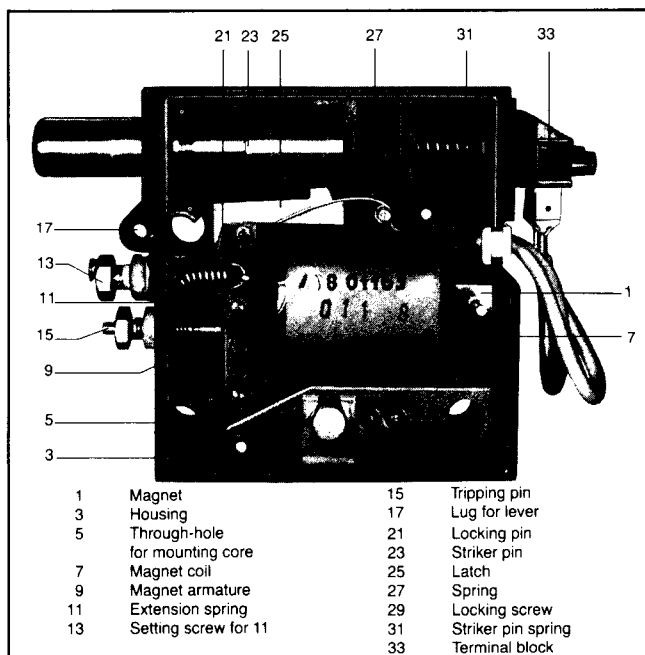

Figure 16. Construction of Shunt Release (Shown Released)
Refer to Figures 16 and 17
The release consist of a spring-power storing mechanism, a latching device and an electromagnet. These elements are accommodated side by side in a housing, (3) (Fig. 16) with a detachable cover and three through holes, (5), for mounting screws. The supply leads for the trip coil are connected to a terminal block, (33). Two lugs, (17), are fitted beside the tripping pin, (15), for the attachment of a manual tripping lever.